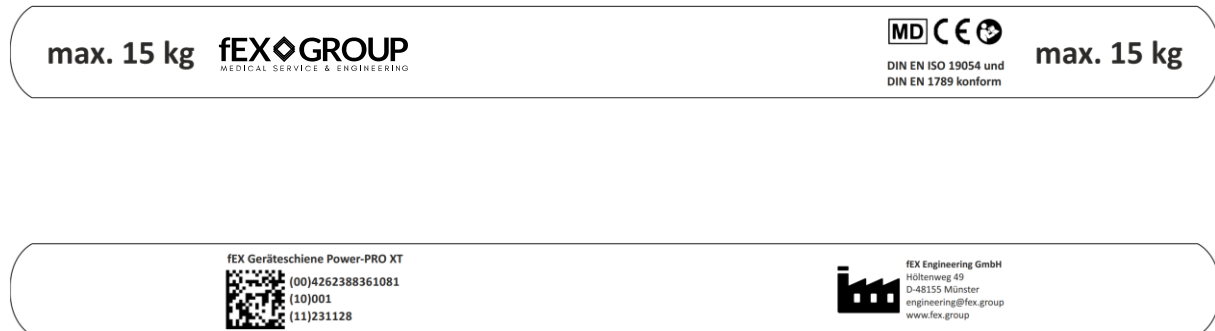

Figure 2: Notices on the product
- Markings on the standard rail must be visible to the user, but not to the patient (Figure 2: *Rail with rail bracket*).